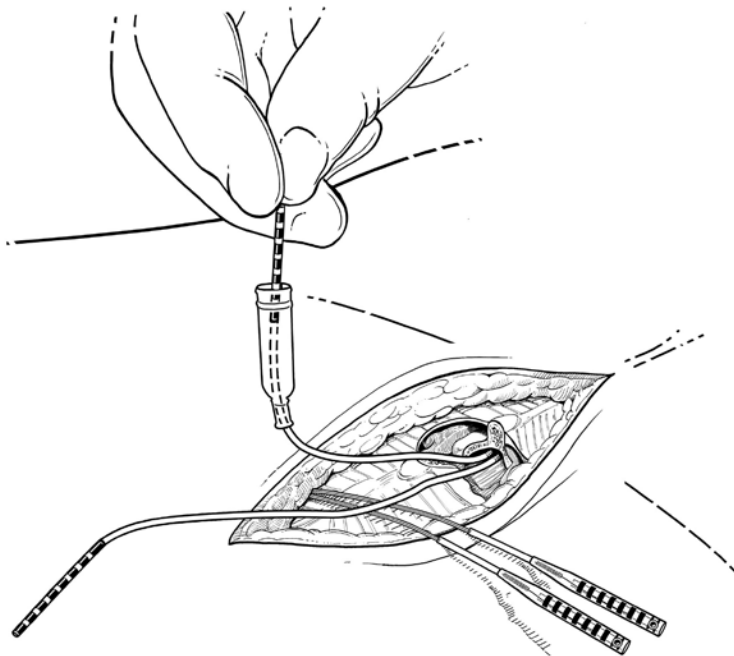

FIGURE 55
- 2 Slide a connector boot onto each lead body with the open end facing outward, exposing the lead contacts (FIGURE 55).